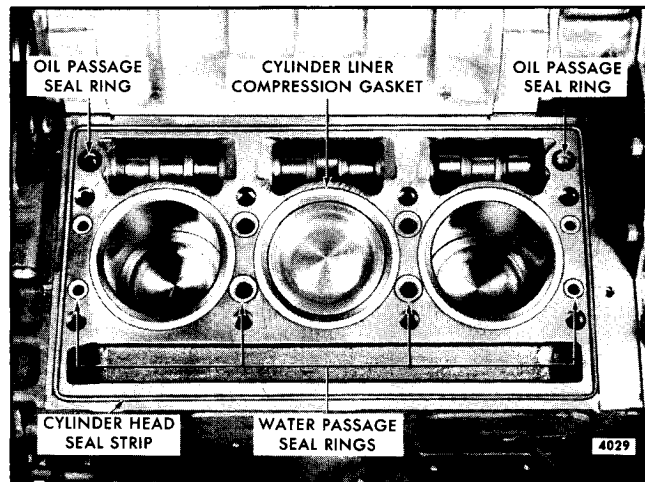

Fig. 6 - Cylinder Head Gaskets and Seals in Place on Cylinder Block
1. Refer to Fig. 6 and install the water and oil seal rings and compression gaskets as follows: